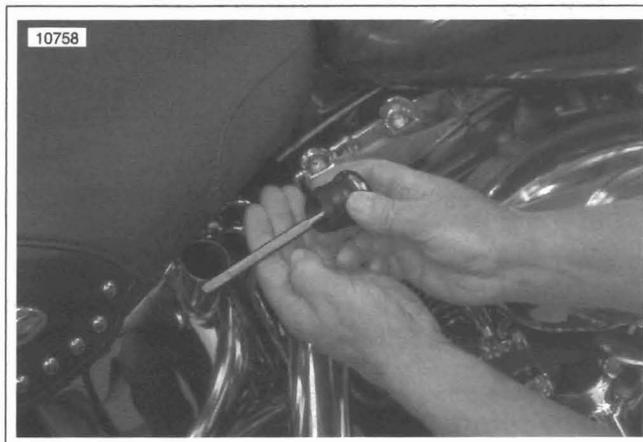

Figure 1-1. Checking Oil Tank Level
See Figure 1-1. Check engine oil level:
2. See Figure 1-1. Remove the oil filler plug/dipstick by pulling steadily while moving plug back and forth.
7. See Figure 1-1. Fill oil tank with 3.0 quarts (2.85 liters) of oil. Use the proper grade of oil for the lowest temperature expected before next oil change. See Table 1-3.